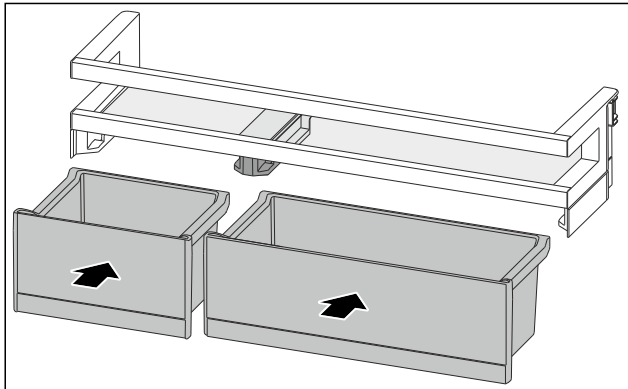

Fig. 116
- ▶ Insert the VarioBoxes in reverse order. (see Fig. 116)